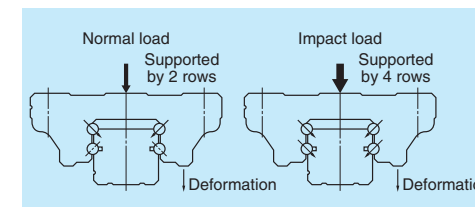

Fig. 5 Shock-resistance
- When a super-high load (impact) is applied, our Gothic arch groove spreads the load to surfaces which usually do not come into contact in ball-type NSK linear guides. This increases impact load resistance (Fig. 5).